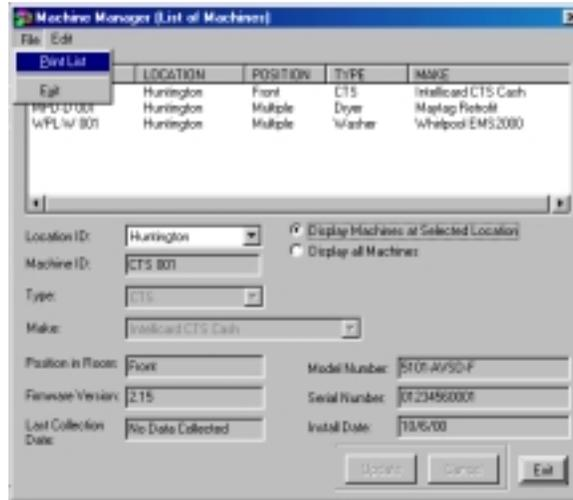

Figure 7.11 Opening the Machine List Report
2. Select Print List from the File drop-down menu (Figure 7.11).